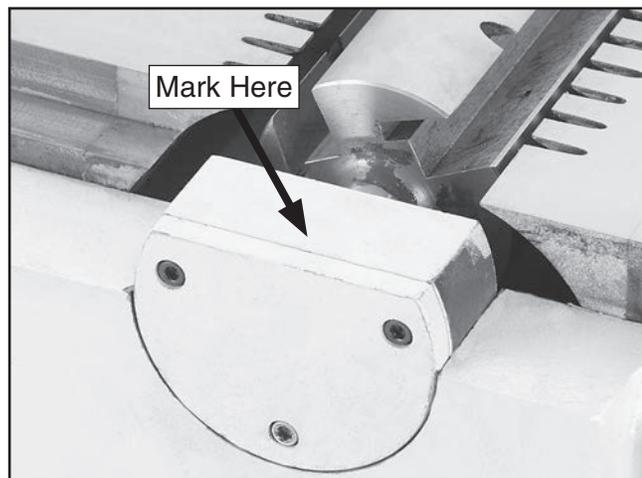

Figure 9. Location to mark front bearing block.
18. Mark side of front bearing block that faces front of machine (see **Figure 9**) with tape or a felt marker to make it easier to re-install bearing blocks later.